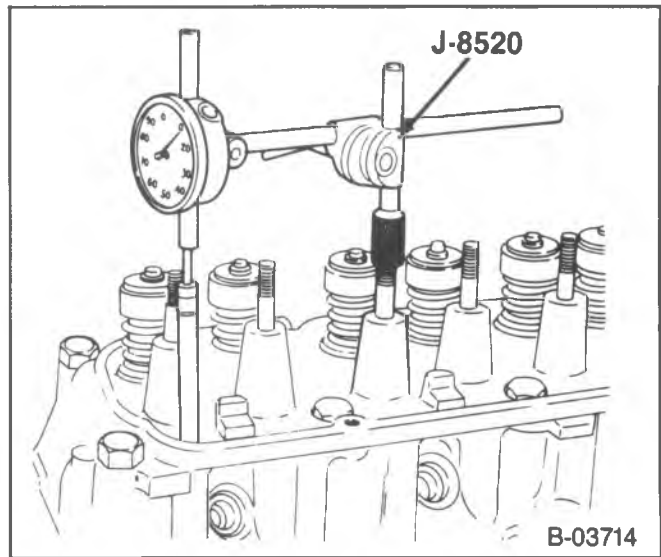

Figure 26—Checking Valve Timing Or Camshaft Lobe Lift
2. Install a dial indicator, along with J-8520 (figure 26). Turn the crankshaft until the #2 exhaust valve opens and the notch on the damper is aligned with the "0" mark on the timing tab.
2. Install a dial indicator (part of J-8520) (figure 26). Position the dial indicator so the plunger rests on the pushrod end, as shown. Make sure the pushrod is in the lifter socket.